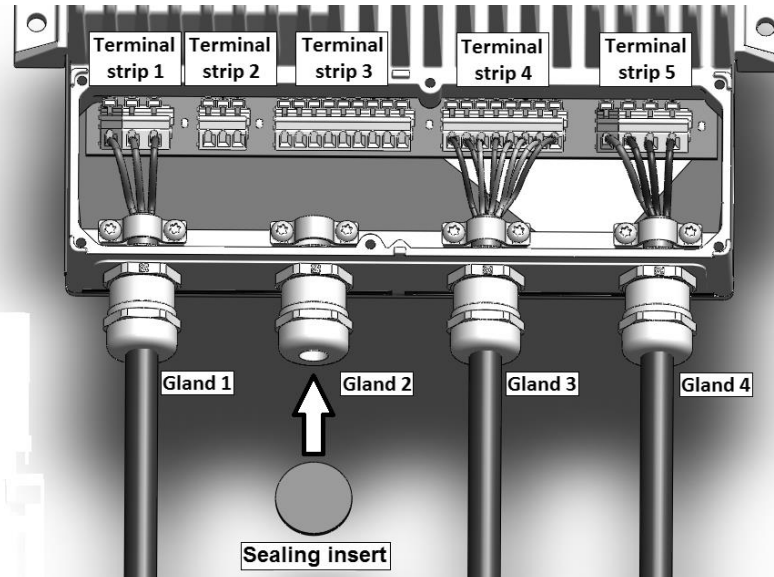

Fig.3: Example how to install cables, wires and install the sealing insert for sealing cable gland.
- b) Unscrew the nut of cable gland 4. Insert the motor cable through the gland and mount the cable shield (Fig.3). Press the terminal strip 5 (Fig.3 and 4) and connect the motor wires to the terminal strip 5. Tighten the nut of cable gland 4 for optimum IP protection.
- c) Unscrew the nut of cable glands 3 and remove the sealing insert for sealing. Insert the control cable (Cable3). Mount the cable by shield (Fig.3). Press the terminal strip 4 (Fig.3 and 4) and connect control wires to the terminal strip 4. Tighten the cable gland 3 for optimum IP protection.
- d) Unscrew the nut of cable glands 2 and remove the sealing insert for sealing. Insert the control cable (Cable2). Mount the cable (Fig.3). Press the terminal strip 3 (Fig.3 and 4) and connect control wires to the terminal strip 3. Tighten the cable gland 2 for optimum IP protection.
- e) For power supply and Relay Fault function use one cable with 6 wires if Relay Fault is needed. Unscrew the nut of cable glands 1. Press the terminal strip 1 (Fig.3 and 4) and connect the Power wires to the terminal strip 1. Press the terminal strip 2 (Fig.3 and 4) and connect the wires for Relay Fault. Tighten the cable gland 1 for optimum IP protection. Do not lead Relay Fault cable through control cable glands 2 and 3. It could cause defect signals on control wires.